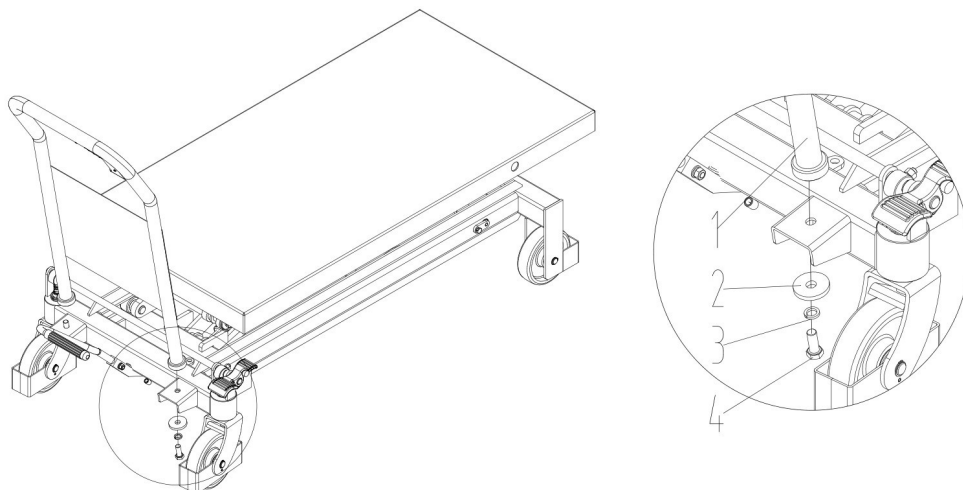

Figure 1a - Push handle mounting.
19. Fit the push handle (1) to the mounting holes on the chassis using bolt (4), spring washer (3) and flat washer (2), then tighten the bolt securely with a wrench (Figure 1a).